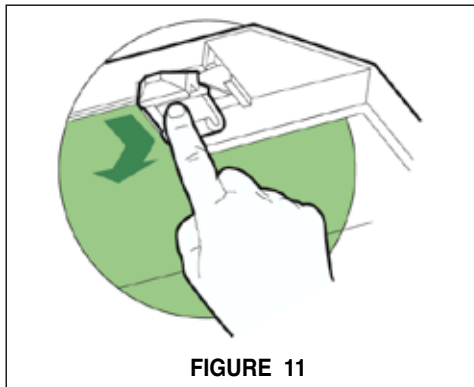

FIGURE 11
4. Install the charcoal filters (sold separately) above the perimetric comfort panel and the grease filter, see (**FIGURE 11**) for installation. Remove the grease filter and position the charcoal filter with the pull tabs facing out and forward then snap into place. Place grease filter back into place.